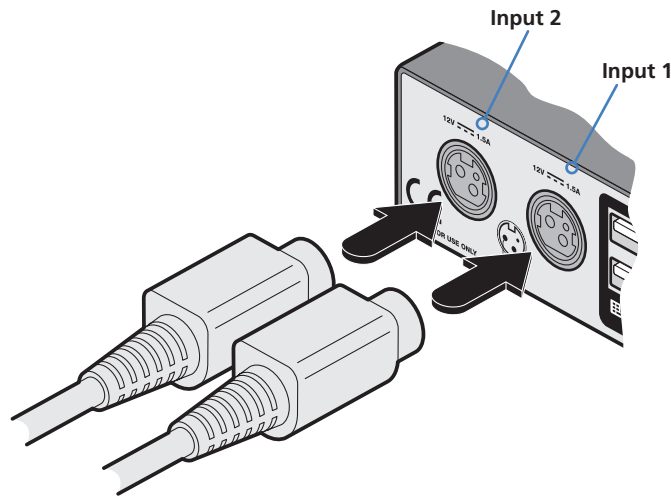

Figure 3-5. Attaching the power adapter lead(s) to the power input socket(s).
1. Attach the output connector of the supplied power adapter to either of the two power input sockets on the left side of the rear panel. See Figure 3-5.